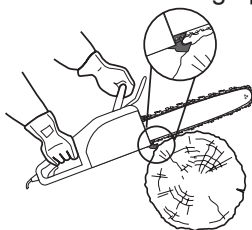

Fig. 21
5. Ensure the saw chain (11) is running at full speed before it makes contact with the wood. Use spiked bumper (5) to secure the product onto the wood before starting to cut and use it as a leverage point while cutting (Fig. 21).